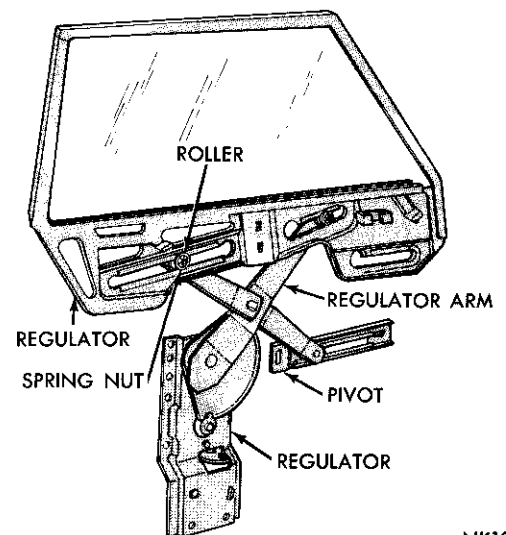

Fig. 93—Rear Door Glass Regulator (Imperial)
- (2) Remove the trim panel and watershield.
- (3) Raise the door glass and remove the spring nuts from the regulator arm studs (Fig. 93).
- (4) Support the window assembly and remove regulator arm studs from the rollers in the glass lower frame.
- (5) Remove the regulator attaching screws and remove the regulator and pivot links through the door opening.